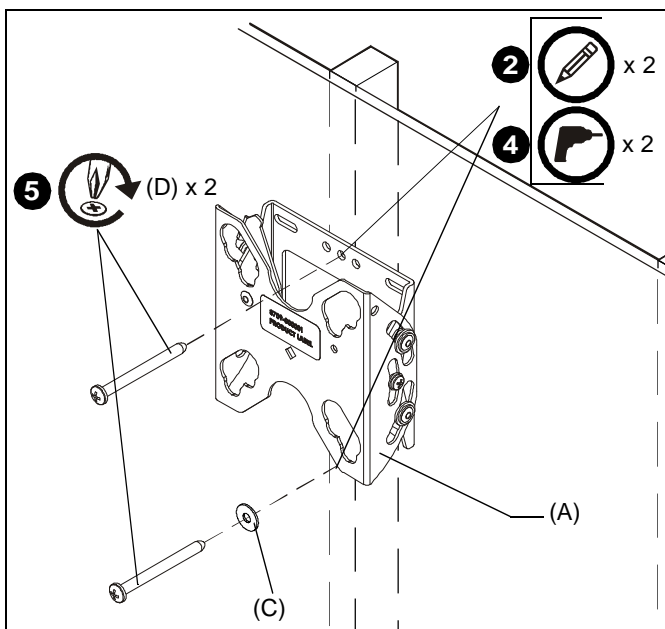

Figure 1
3. Level FTR assembly (A) at desired height and, using it as a template, mark the location of upper and lower pilot holes. Ensure marks are in the center of wood stud.
5. Fasten FTR to wood stud using two #10 x 2-1/2" Phillips head screws (D) through two #10 washers (C), FTR (A), and drywall (not shown) and install into pilot holes. (See Figure 1)